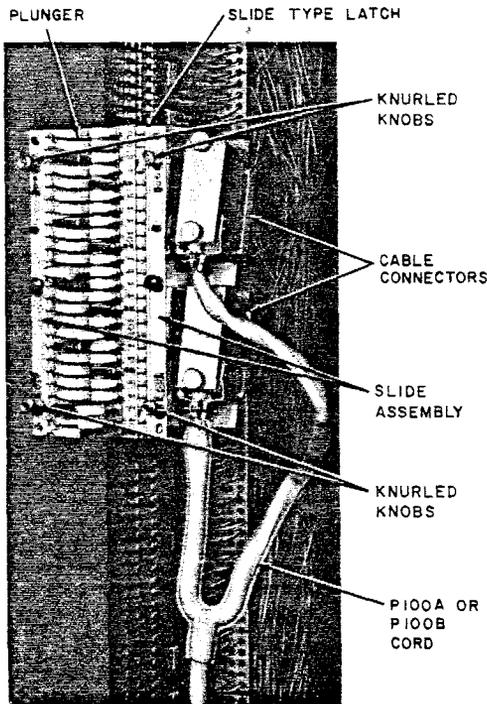

Fig. 5—F Test Connector on 444-Type Jack
4.01 The F test connector consists of a U-shaped main support (Fig. 5 and 6) containing 50 plungers, each equipped with a pair of contacts connected through flexible printed circuitry to a common terminal strip which in turn is wired to cable connectors.
- (1) The left and right slide assemblies (Fig. 5) should be in the *DOWN* position when the plungers are released to contact the cable pairs.
- (2) The left and right side assemblies (Fig. 5) should be in the *UP* position when the central office equipment is to be removed from any pair.
- (3) Place and lock the F test connector on the adapters by rotating the four knurled knobs so the locking plate positioning dots are adjacent to those on the chassis.
- (4) When using the F test connector make certain that:
- The left and right side assemblies (Fig. 5) are in the **DOWN** position when the plungers are released to contact the cable pairs.
- The left and right slide assemblies (Fig. 5) are in **UP** position when the central office equipment is removed from any pair.
- (5) To make contact with the springs of the 444-type jacks, release the latches on the plungers. (Special service markers prevent contact with the springs associated with special service pairs.)